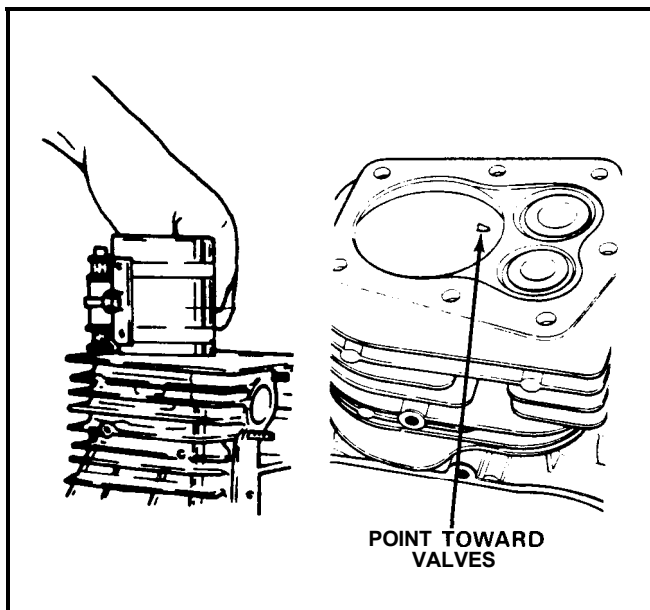

Figure 100
7. The piston and connecting rod may now be installed from the top of the cylinder. Make sure the entire piston has been lubricated with engine oil. The arrow on the connecting rod and piston should face the valve side of the engine. Use a piston ring compressor as shown in Figure 100 to install the piston.